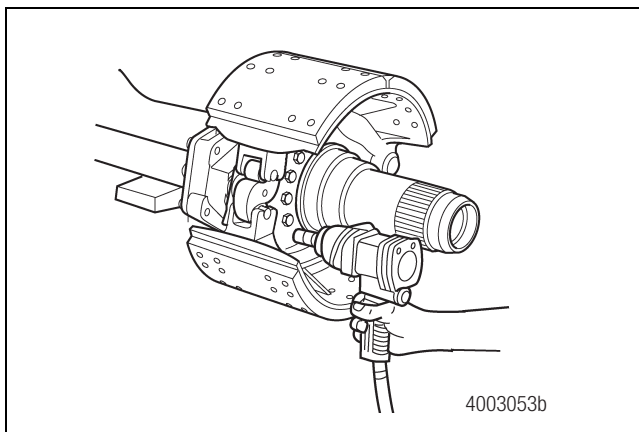

Figure 9.6
9. Remove the remaining 13 fasteners that hold the brake spider and spindle to the knuckle. Figure 9.6.